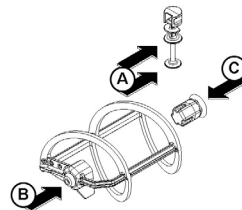

figure 13
- 2** Lubricate the tap piston, the external scraper and the hexagonal coupling (at points A, B and C in figure 13) using only the grease provided or other **food grade** grease.